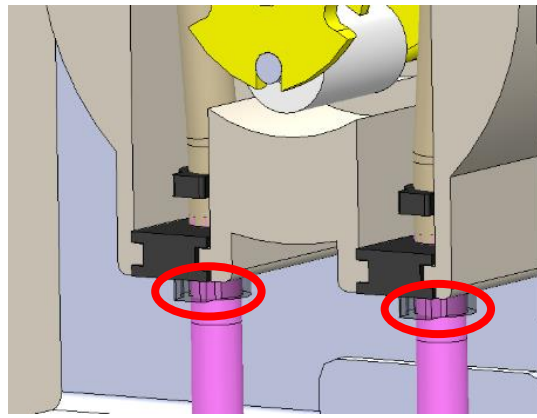

Figure 4
3. Break the zip-ties at the bottom of the pump housing using wire cutting pliers and disconnect the tubing at the bottom. **NOTE:** Take caution not to cut the silicone tubing. See Figure 4.